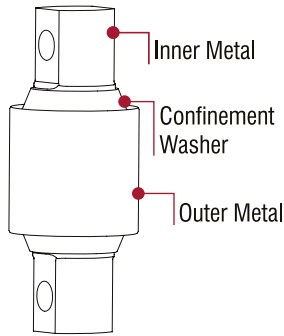

Figure 33: End Bush Assembly
4. Press on the end bush inner metal, refer Figure 33, of the end bush until the inner metal is flush with the top of the beam end hub. This will dislodge the confinement washer and move the bush rubber away from the outer metal of the bush so the removal tool can be installed.
5. Centre the end bush removal tool directly on the bush's outer metal (refer Figure 33) and press the bush out of the beam end hub.